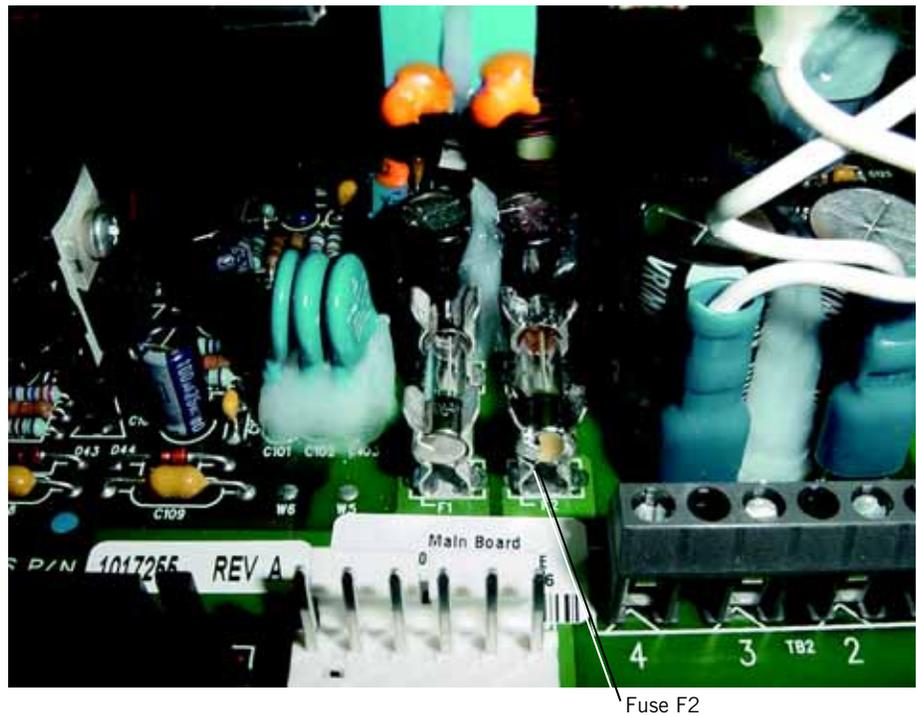

Figure 10-23: Power Supply Fuses (F2 Soldered)
NOTE: F2 fuses are **not** field replaceable on the power supplies with fuse F2 soldered to the fuse clip (Figure 10-23).
2. Remove the appropriate fuse from its holder (Figure 10-23).